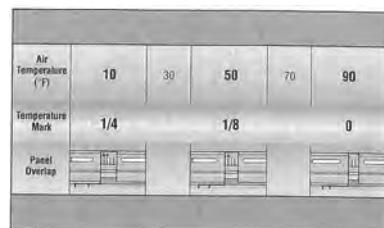

Fig.25
c. If this is your first course of Round Cuts refer to chart for over lap amount (Figure 25).